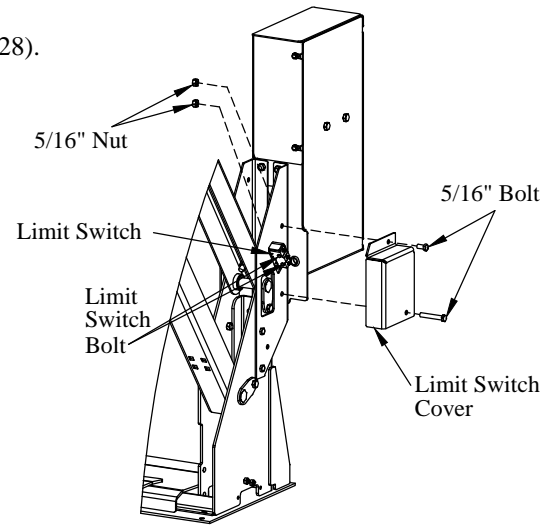

Figure 28: Limit Switch.
5. **Remove** the limit switch cover by removing two (2) 5/16" bolts and nuts (Figure 28).
6. **Loosen** the bolts holding the limit switch (Figure 28).
9. **Install** the limit switch cover with 5/16" bolts and nuts. Be careful not to over tighten the 5/16" bolts (Figure 28).